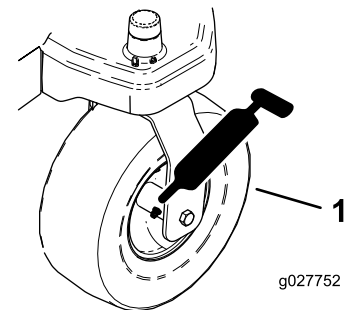
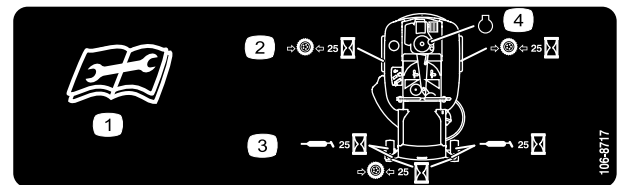

Figure 23
Figure 24
3. Clean the grease fittings (Figure 23 and Figure 24) with a rag.
4. Connect a grease gun to each fitting (Figure 23 and Figure 24).